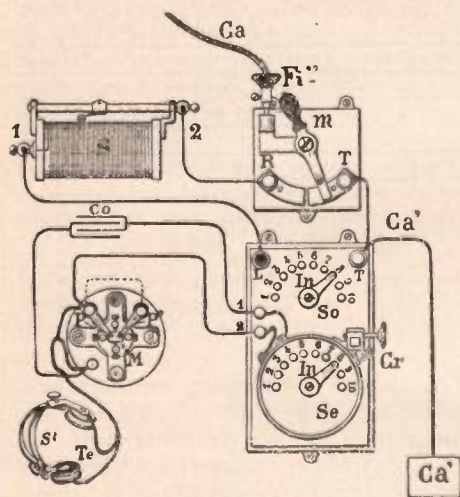

FIG. 2
-FIG. 2-
The Ducretet establishment of Paris have lately brought out a detector of the perikon type which has some advantages for practical use. Owing to the irregular structure of the minerals and the fact that their mass is not homogeneous, it is recognized that all the points of their surface do not have the same sensitiveness. Some regions are quite insensible, while points very near them are quite sensitive. Thus we should be able to explore the surface of the substance in a rapid and practical manner. The crystal, M, Fig. 2, is held fast by four screws at the centre of the box, upon a solid metal plate which pivots about a point placed near the side of the box. We can thus give the crystal a side displacement by means of the button, B'. The centre point about which this first plate can turn is itself fixed upon a second plate which pivots about another centre. Using the second button, B, we give the plate and the substance, M, a movement which is perpendicular to the first movement.